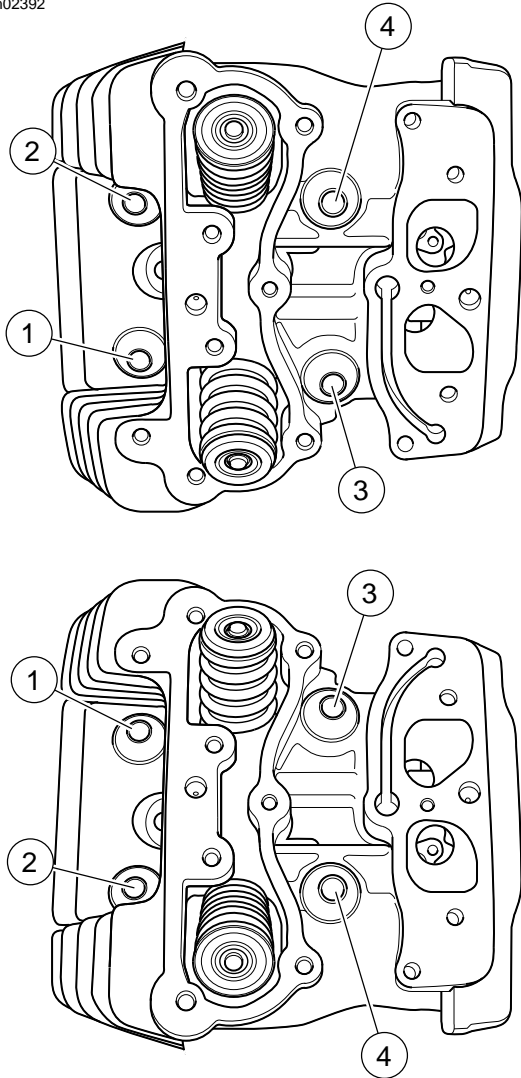

Figure 3-26. 1/4 Turn Head Bolts in Sequence
3. See Figure 3-26. Remove cylinder head bolts.